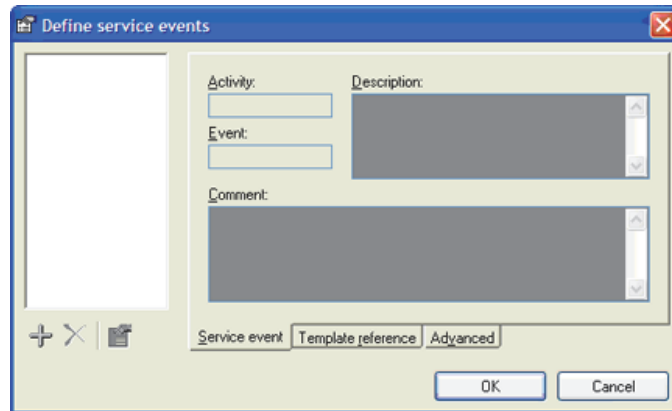

Figure 3-62. Service Events Window
2. Define a service event by clicking on **Edit | Service events** to display the service events window shown in Figure 3-62.